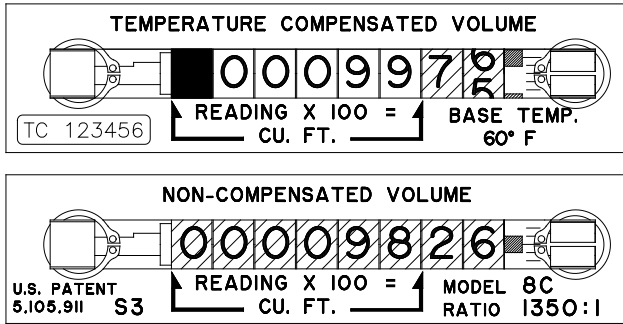

Figure 25 - A reading of 9756 would be the number recorded for TC unit operational check.
3. Observe the Temperature Compensated volume odometer. When the odometer stops turning after an intermittent compensating cycle, record the last 3-digit reading and the value indicated by the graduated marks on the test wheel as the "Counts, Initial" (Ci) indicated on the odometer. This is read as a whole number. (Refer to the Sample Counter Reading in Figure 25.)
Example: Assume the gas temperature is 53.0°F, and from *Figure 25*, the initial odometer reading (**Ci**) = 9756. We then allow the odometer to cycle 25 times and record the final reading. We will further assume the final odometer reading (**Cf**) = 2295.